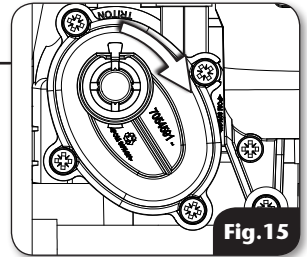

Fig.15
B. With the cover off the shower - turn the stabiliser valve spindle fully clockwise until resistance is felt (**fig.15**).